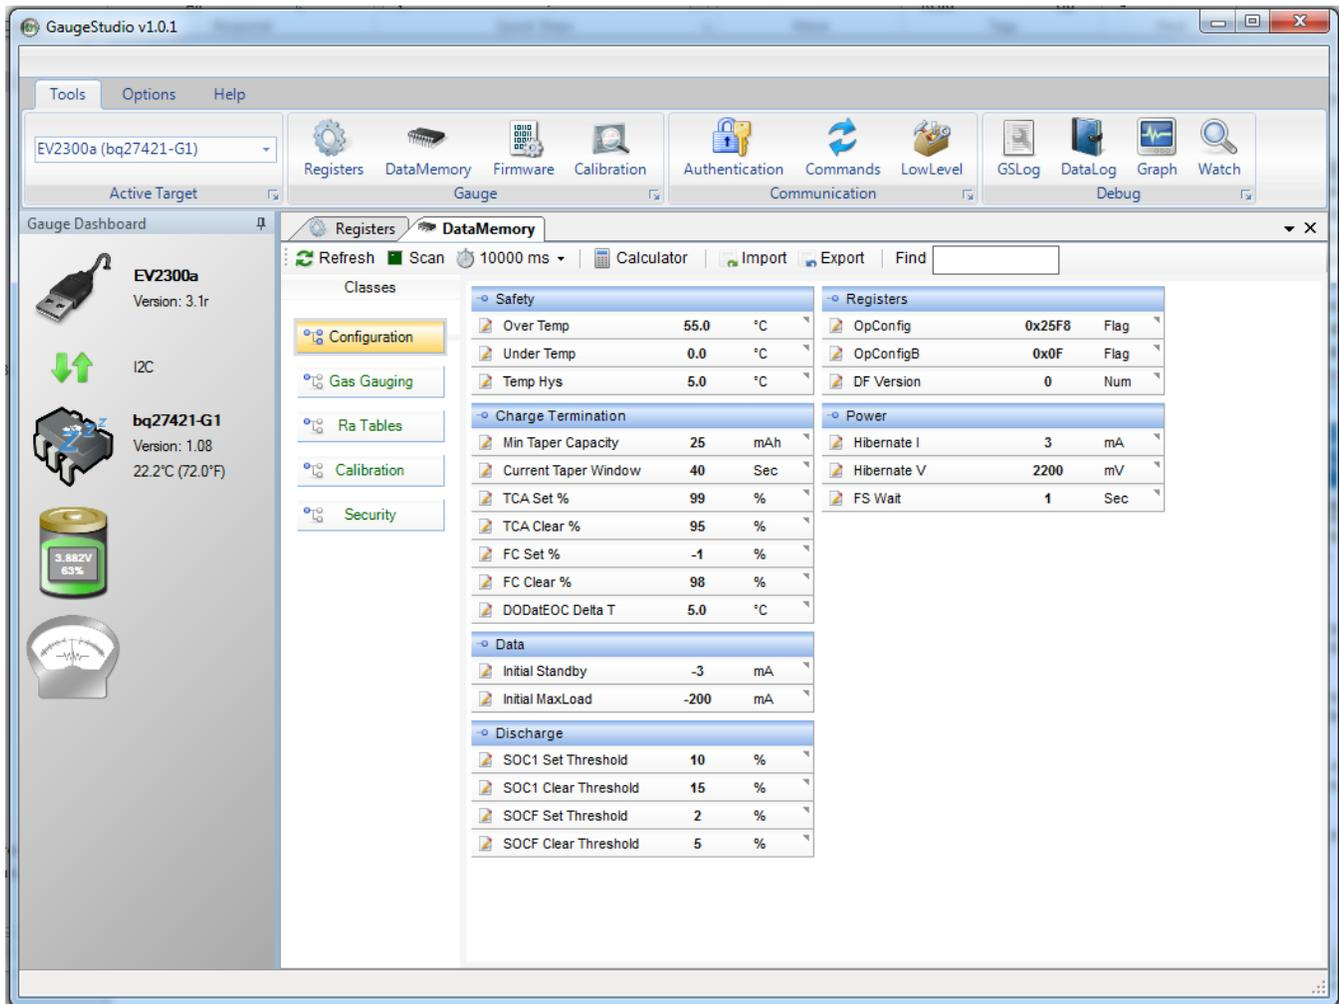

Figure 9. Data Memory Screen
**IMPORTANT:** The correct setting of these options is essential to get the best performance. The settings can be configured using the *Data Memory* window seen in the main *GaugeStudio* window (Figure 9).